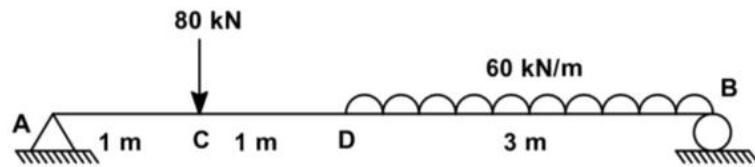

Figure-3
- (c) For the beam shown in **Figure-3**, calculate support reactions and plot Bending Moment Diagram. Also, obtain value of maximum bending moment in the beam. **07**